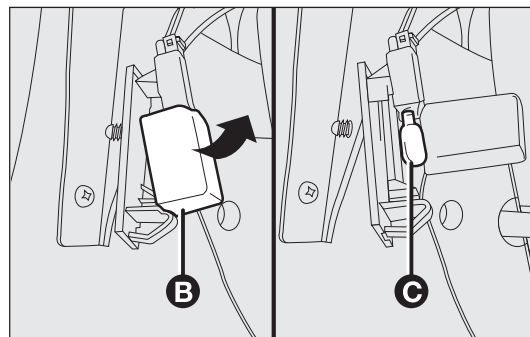

fig. I64
- ☐ open the bulb cover B-fig. I64 and replace the pressure-fit bulb C;